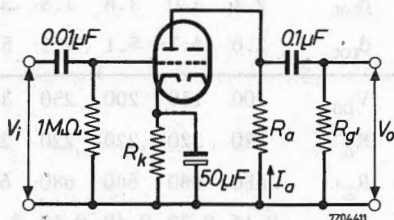

Fig. 1
A.F. amplifier - circuit fig.1 (continued)